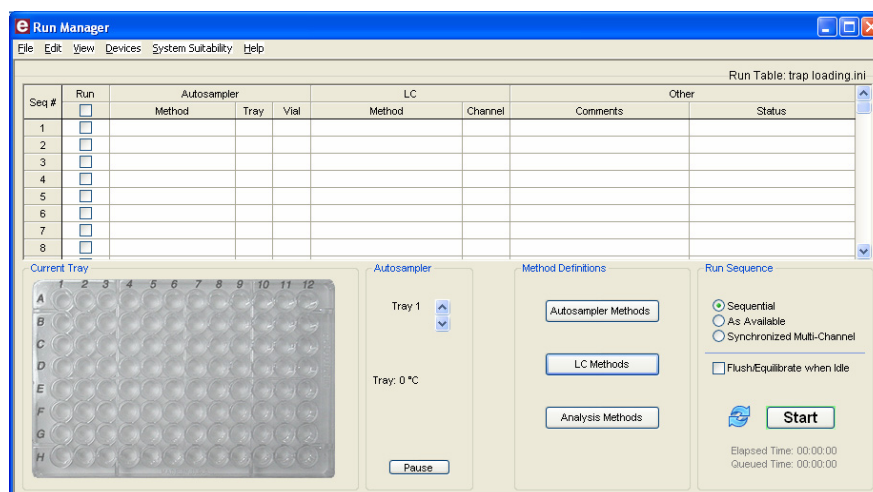

Figure 5-15. Creating a New Run Table
- step 2* Create a new, blank **Run Table** by selecting **Edit > Erase Table** (Figure 5-15).